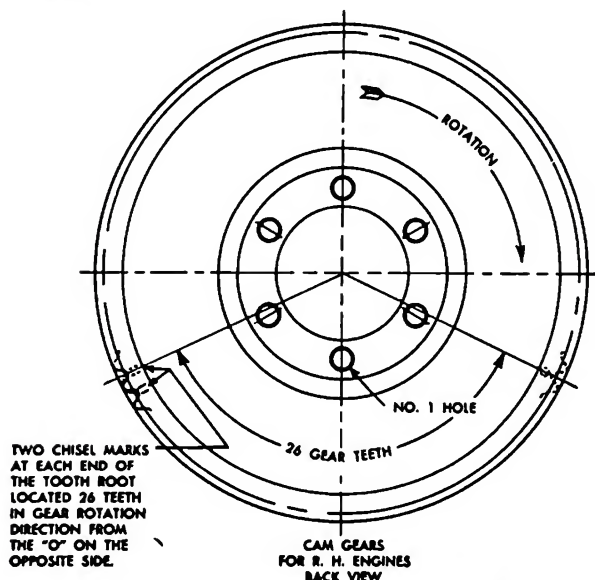
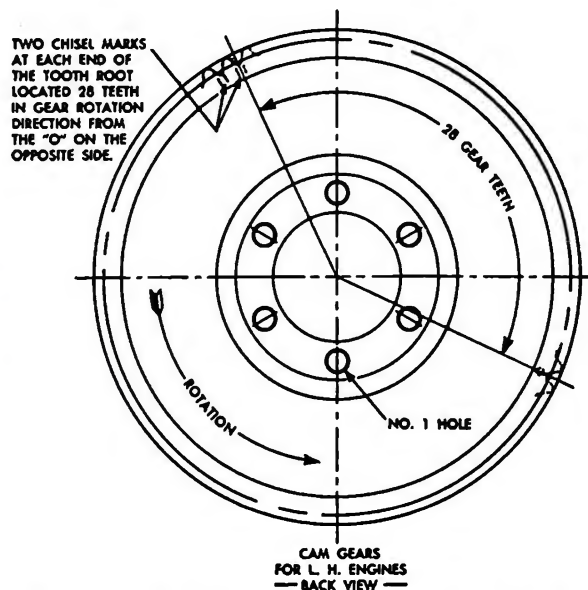

Fig. 2-11. New timing marks on right hand cam gear
Fig. 2-12. New timing marks on left hand cam gear
4. All H and NH cam gears are to be marked as shown in Fig. 2-11 or Fig. 2-12 regardless of the type fuel pump (single-disc or double-disc) used on the engine.